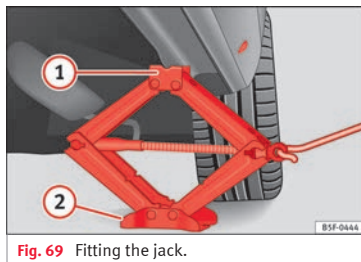

Fig. 69 Fitting the jack.
- Turn the jack* crank handle, located below the strut support point, to raise it until the tab ①»» Fig. 69 is below the housing provided.
- Align the jack* so that tab ① “grips” onto the housing provided on the strut and the mobile base ② is resting on the ground. The base plate ② should fall vertically with respect to the support point ①.